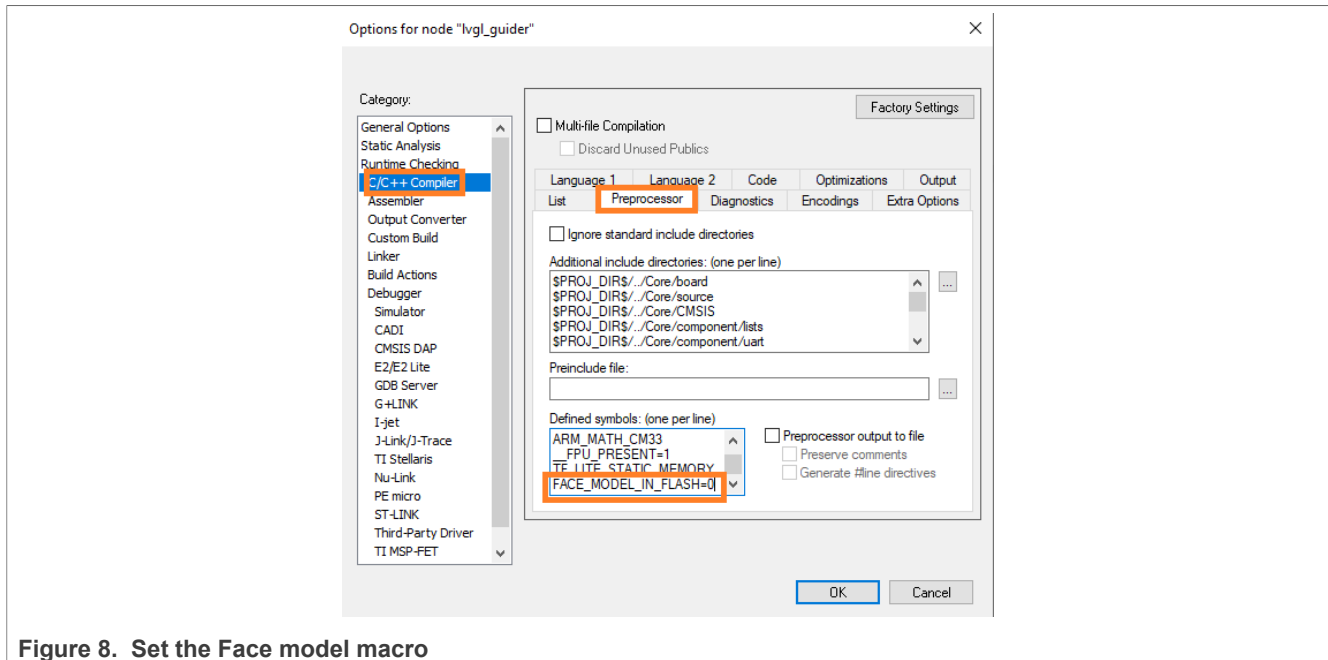

Figure 8. Set the Face model macro
5. Go to the **C/C++ Compiler** category and select the **Preprocessor** tab. In the **Defined symbols** field, scroll down to the bottom and change the **FACE_MODEL_IN_FLASH** define to **0** as shown in Figure 8.